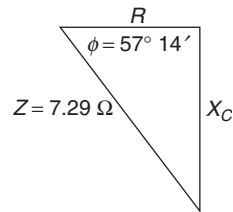

Fig. 31
18. Find R and X_C in Figure 31.